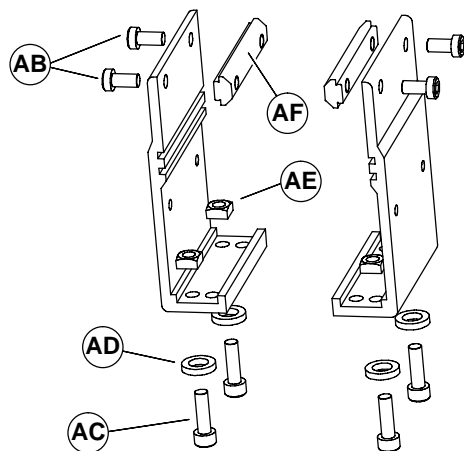

**Figure 9**
5. Slide belt (Q of Figure 9) over assembled conveyor sections (AA).